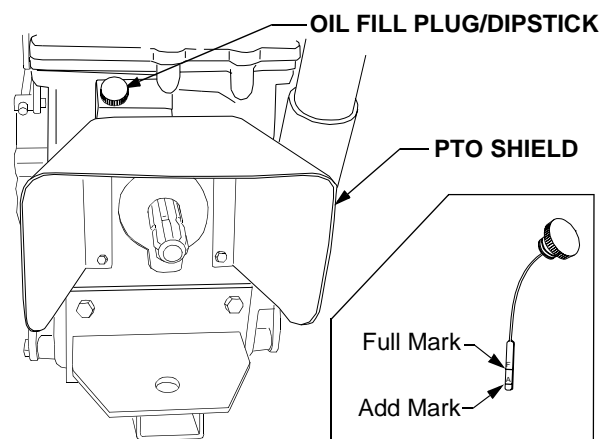

Figure 46
The oil fill plug/dipstick is located at the rear of the tractor, above the rear PTO shield. See Figure 46.
- Clean the area around the oil fill plug/dipstick to prevent debris from entering the transmission housing. See Figure 46.
- Withdraw the dipstick and wipe it clean, then reinsert and screw in all the way. Unscrew and withdraw again to read the oil level. Always keep the oil level between the add and full marks on the dipstick (See Figure 46).
- Clean the area around the transmission drain plug and the oil fill plug/dipstick to prevent debris from entering the transmission. Refer to Figure 46 and Figure 47.
- Clean the area around the transmission oil fill plug/dipstick to prevent debris from entering the transmission (Refer to Figure 46) and remove the plug.